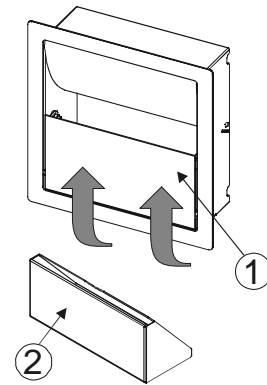

Figure 4- Container
The container (2) can easily be removed from its seat. To do so, lift the door (1) at the bottom and extract the container (see fig.4).